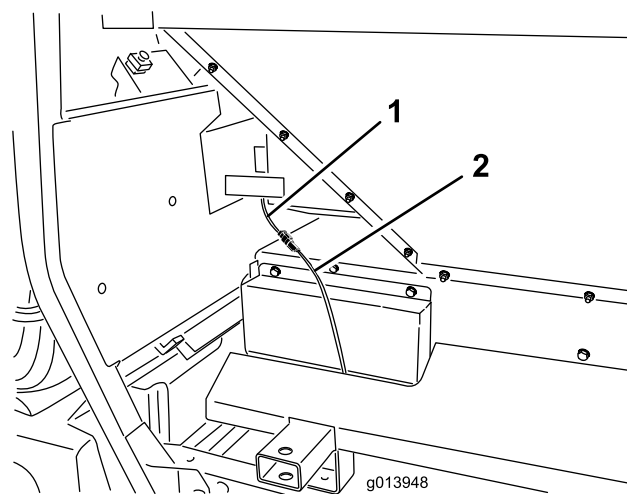
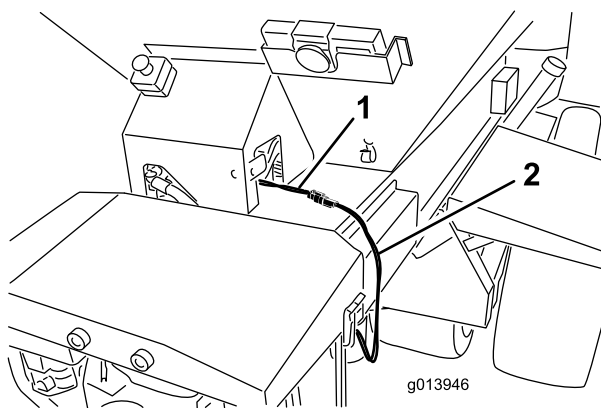

Figure 19
Figure 18
45. Plug the intermediate wire harness into the power harness connector on the ProPass (Figure 18 or Figure 19).